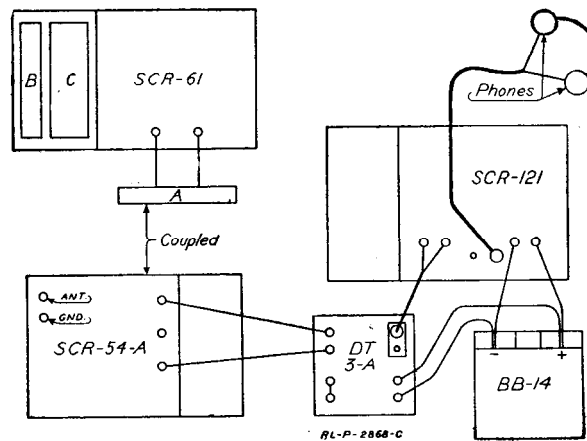

Fig. 67.—Cording diagram of connections when operating the SCR-54-A, the DT-3-A, and the SCR-121 sets together.
4. Make a set-up of apparatus similar to the one used in Unit Operation No. 12, using the SCR-121 amplifier in place of the SCR-72 amplifier. (See Fig. 67.) To do this connect the leads from the jack of the DT-3-A detector to the binding posts marked "Amplifier" on the SCR-121. Connect the 4-volt terminals on the SCR-121 panel to the terminals of the storage battery with due regard to polarity. Turn the filament current rheostat to the "OFF" position. See that the two 22½ volt "B" batteries are properly connected in the set box. Insert a VT-1 tube in each socket (including the socket of the DT-3-A detector).